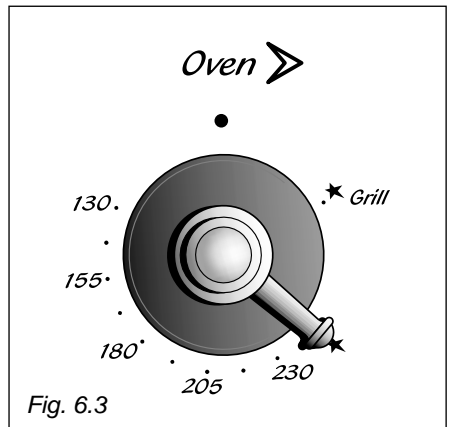

Fig. 6.3
- 2) Lightly press and turn the thermostat knob anti-clockwise to max position (• ✱ fig. 6.3).